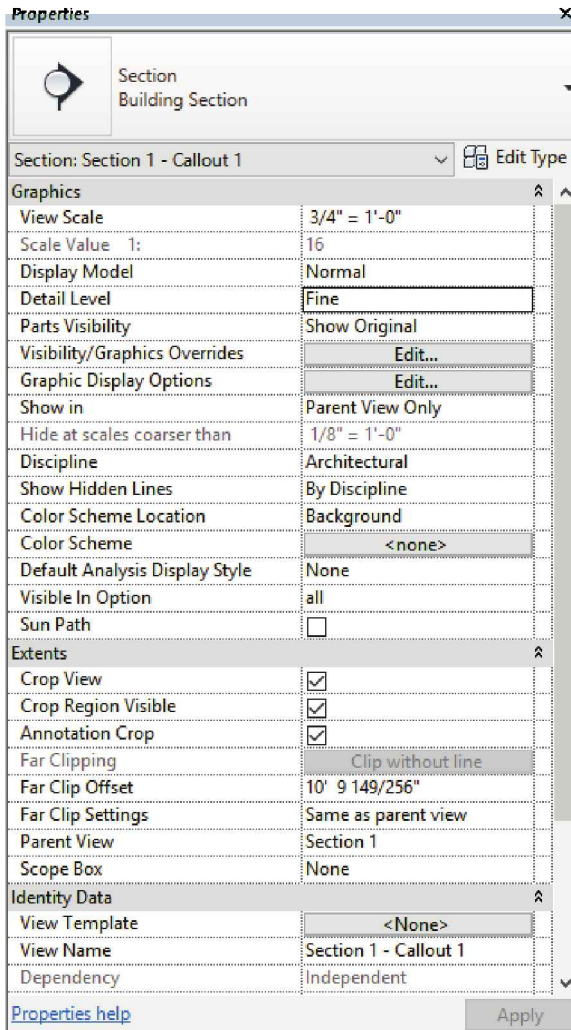

FIGURE 10-3.3 View properties
- In the View properties, set the *View Scale* to  $\frac{3}{4}'' = 1'-0''$  and the *Detail Level* to **Fine** (Figure 10-3.3).